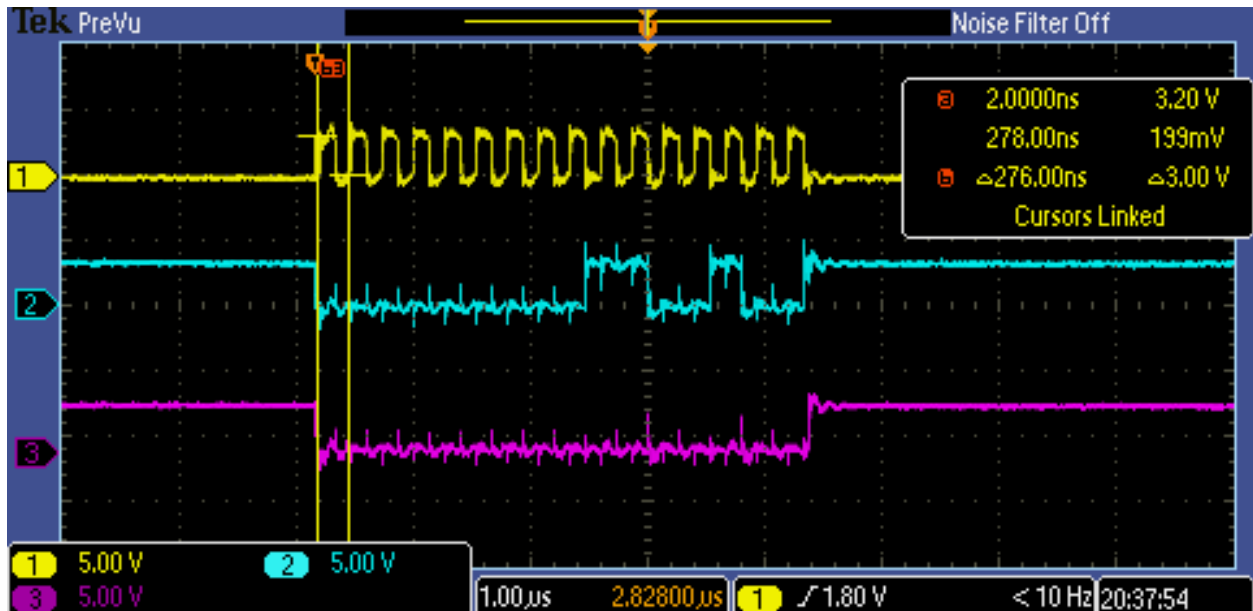

Figure 2 - Waveform Capture of 16-bit SPI Transmission
- Slave Select (SS) is specified
- Slave Select is often referred to as Chip Select (CS) in documents
- Figure 2 displays waveform capture of 16-bit transmission (0x0064) at ~3.6MHz